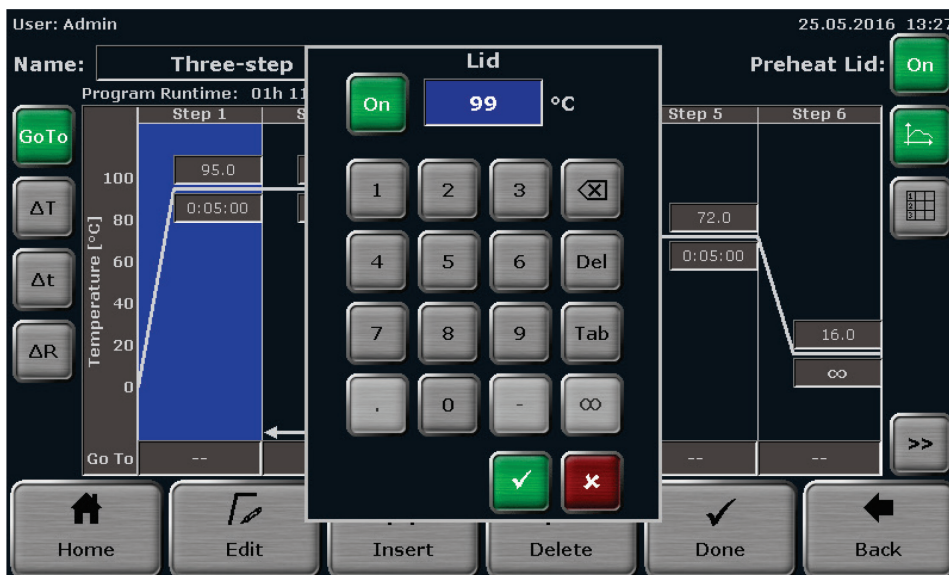

Figure 19. QIAamplifier 96 heated lid temperature setting screen.
4. The program template screen opens (see Figure 19). Search for a program template using the cursor keys and press the corresponding button to select it.
The program structure can be controlled in the program preview (see Figure 19). If a template is selected, the program steps and some additional information are displayed in spreadsheet form. By using the program preview function, templates can be checked before they are opened.